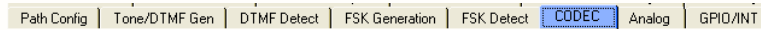

Figure 3-10 CODEC
- Microphone (A) -> ADC (B) -> Lrin (C) -> AEC (D) -> Asout (E) -> MIC (F) -> Arin (G) -> LEC (H) -> Lsout (I) -> DAC (J) -> PO (K)
- TI1 (A) -> ADC (B) -> Lrin (C) -> LEC (D) -> Asout (E) -> TI (F) -> Arin (G) -> AEC (H) -> Lsout (I) -> DAC (J) -> SPK (K)
To enable or disable a path portion, users simply click on the related function block, and the software automatically switches to the corresponding panel. For example, to disable the ADC (B), users just click on the ADC block, and then the software will switch to the CODEC panel as in Figure 3-10. Users then uncheck the Air CODEC (L) to disable the ADC. (Please note that ADC and DAC share the hardware circuitry, so the ADC and DAC will be turned on or off at the same time).